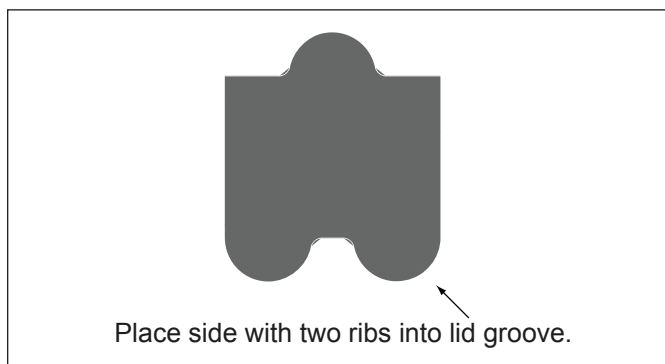

Figure 2. Cross Section of Lid Seal
6. Note that one (1) side of the lid seal has two (2) ribs and the other has one (1). Place the side with two (2) ribs into the groove. See Figure 2.
Bubbles present in the pump basket.	Air is in system. Check pool or spa water level to ensure it is at the proper level and air is not being drawn into suction piping. If water is at normal level, turn off pump. Turn the lid's locking ring counter-clockwise until 'START' aligns with ports. Remove lid and check for debris around lid seal seat or improper installation of lid seal, as either of these conditions will cause air leaks in the system. Clean lid seal and lid groove. Note that one (1) side of lid seal has two (2) ribs and the other has one (1). See Figure 2. Place the side with two (2) ribs into lid groove. Replace lid on pump housing. Align 'START' with ports and turn lid's locking ring clockwise until 'LOCKED' aligns with ports. Hand-tighten the lid to make an air tight seal. Do not use any tools to tighten the lid. Turn the pump back on.